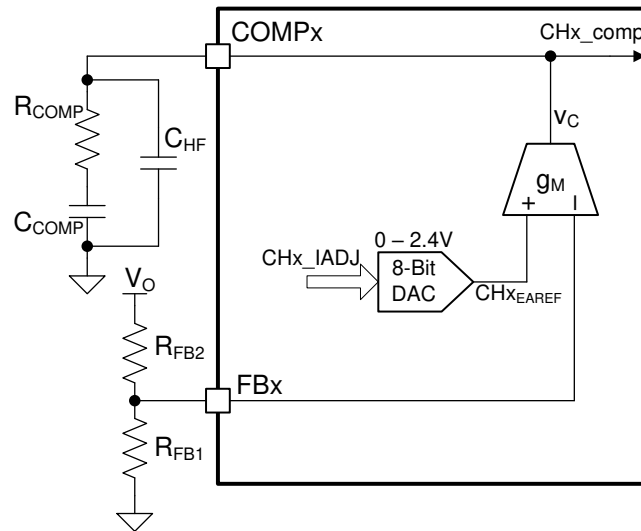

Figure 8-8. Proportional Integral Compensator
The feedback transfer function includes the voltage divider gain ($H_{FB} = R_{FB1} / (R_{FB1} + R_{FB2})$) and the transconductance amplifier gain. A compensation network at the output of the error amplifier is used to configure loop gain and phase characteristics. In CV BOOST application, a Proportional-Integral (PI) compensation is recommended. A network of R_{COMP} , C_{COMP} , and C_{HF} , shown in Figure 8-8, can be used to implement PI compensation to create a pole at the origin, a low-frequency zero, and a high-frequency pole.